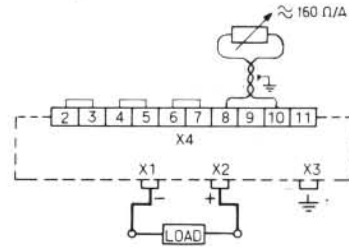

Fig. 8f. Remote current control with external resistor
- a. By connecting a resistor of approx. $160\ \Omega$ per ampere output current as shown in Fig. 8f. The internal coarse and fine current controls R3 and R4 must be turned completely to the right. During operation no connection may be interrupted.
To eliminate extra ripple to the load, the wires should be twisted and/or screened as shown in Figures 8f. and 8g.